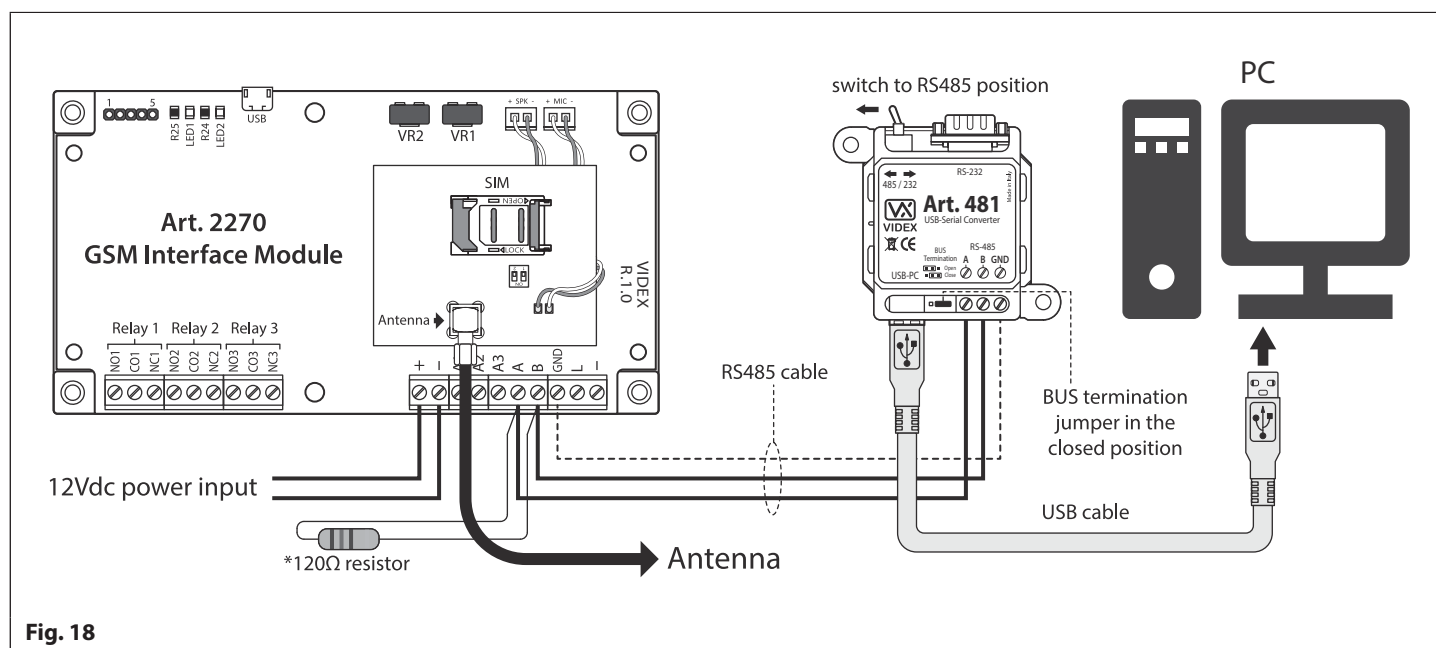

Fig. 18
The GSM module can also be connected using an RS485 bus connection via an RS485 to USB converter (Art.481) as shown in **Fig.18** in instances where a permanent connection to a PC is required for monitoring purposes and downloading event logs. When connected in this way the GSM module can only be connected as a 'one-to-one' bus connection to the PC, another GSM module **cannot** be connected on the same RS485 bus to the PC.
*For end of line termination a 120 Ohm resistor must be fitted across the RS485 terminals A and B, as shown in **Fig.18**.
A CAT-5 cable is acceptable where 1 pair is used for the 0V/GND connection and a second pair is split between the A and B connections (i.e. 1 core of the pair is used for the A terminal, 1 core of the pair is used for the B terminal). The total overall distance between the first RS485 device in line (Art.481) and the last RS485 device in line (Art.2270 GSM module) should be no more than 500m max. for the best possible performance. It is also important that the end of line RS485 bus termination of the respective device (Art.481) is in the ON position, in the case of the GSM module a 120 Ohm resistor should be fitted across the A and B bus terminal connections as shown in Fig.18, page 19).